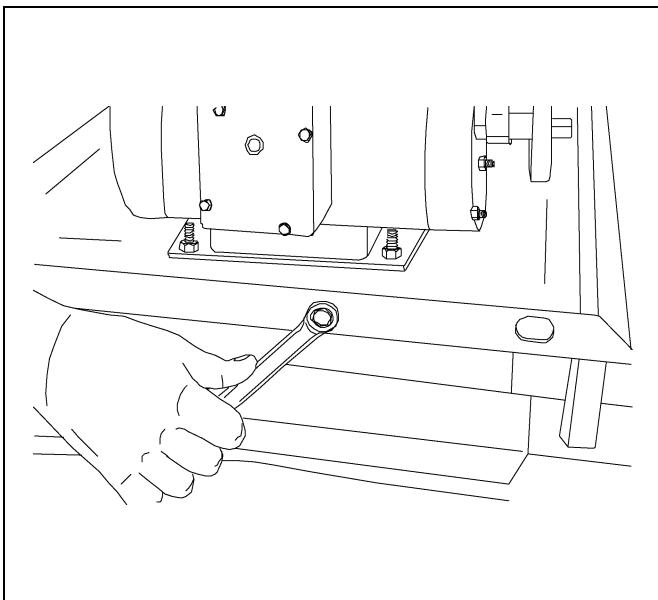

Figure 7J
9. Next, place the A-31 belt onto the pulleys. Tighten the belt to its proper tension of 3/8" deflection at 10 pounds of pressure by turning the 3/8" cap screw as shown in Figure 7J. Tighten the four (4) 5/16" nuts on the motor base. Replace the belt shield.